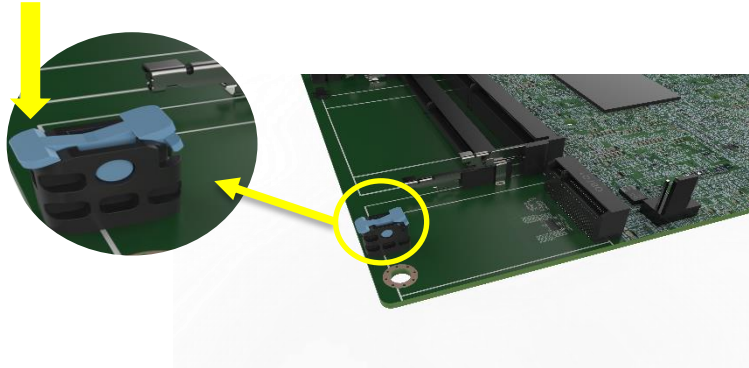

Figure 4-3: Press the Retainer
Step 1: Press the retainer down as shown below. (See **Figure 4-3**)
Step 5: If you want to remove the M.2 module, you should press the retainer down as described in Step 1 to release the M.2 module.. (See **Figure 4-3**)